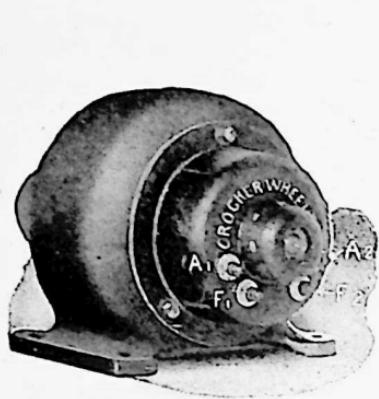

FIG. 121. Simple shunt generator.
61. **Connections of a Shunt Generator.** In connecting up a shunt generator, first trace back the leads from the terminals as shown in Fig. 121. Two of the leads will be